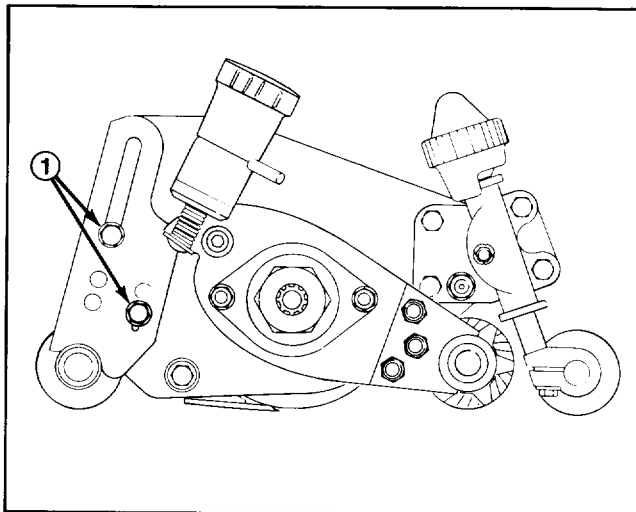

Figure 4
4. After positioning into correct height-of-cut hole position, install flatwashers and nuts and securely tighten right hand rear roller bracket cap screws (Fig. 4).